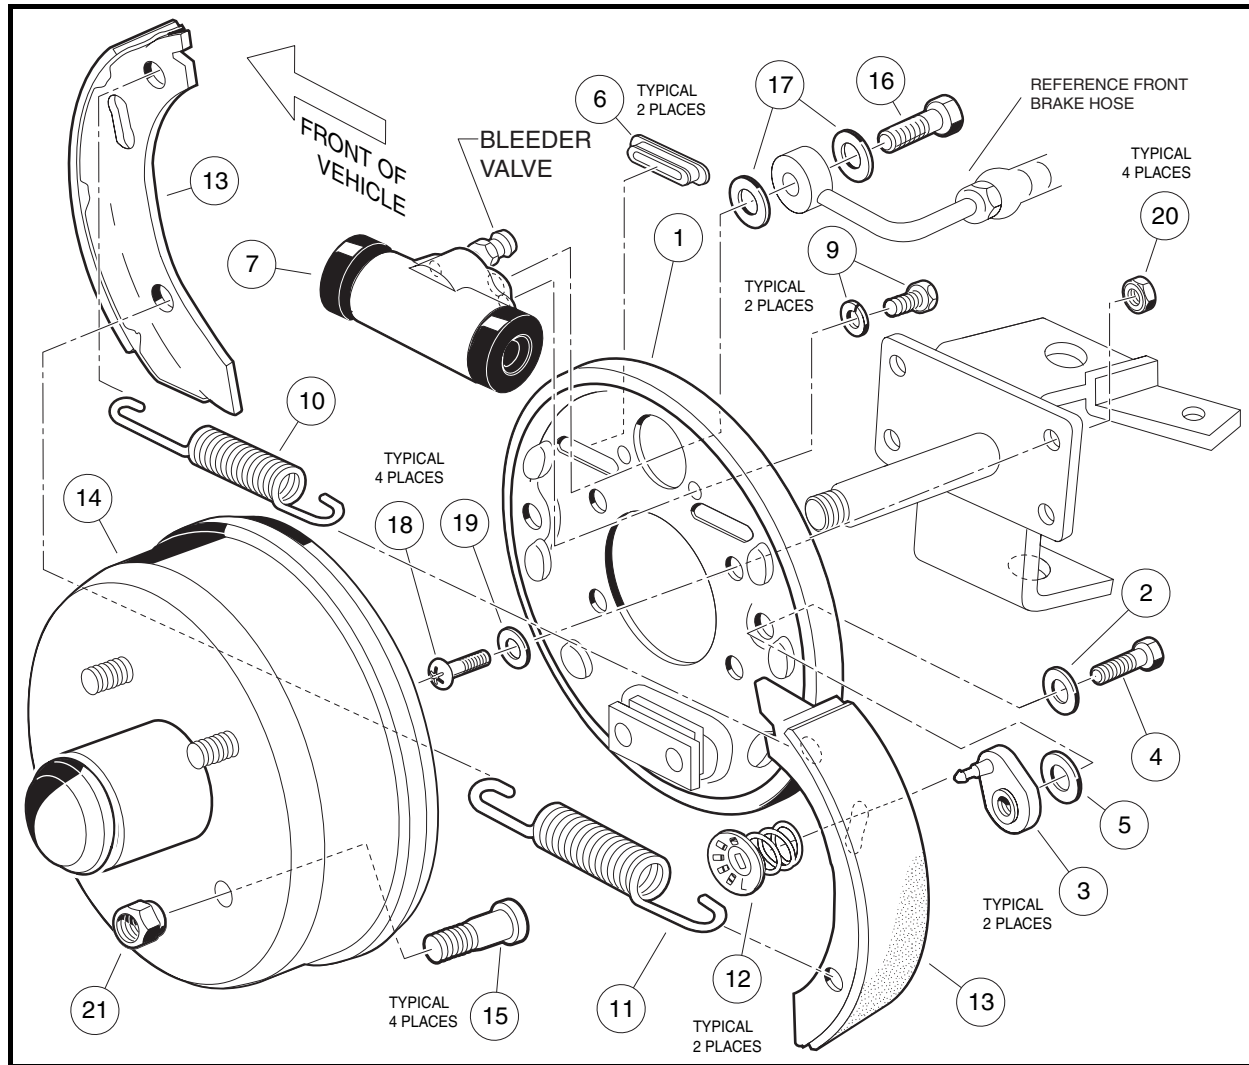

Figure 6-1 Front Hydraulic Brake Cluster Assembly
- Check each wheel cylinder (7) by pulling back the edge of each dust boot (**Figure 6-1, Page 6-2 or Figure 6-19, Page 6-21**). Brake fluid in the boot indicates a leaking wheel cylinder and should be replaced. **See Wheel Cylinder Replacement on page 6-19.**
- If the brake adjusters (3) are frozen (requiring more than 65 in-lb (7.4 N-m) to turn freely), worn or loose, replace the adjuster assemblies in pairs (**Figure 6-1, Page 6-2**). **See Brake Shoe Adjuster Replacement, Section 6, Page 6-21.**